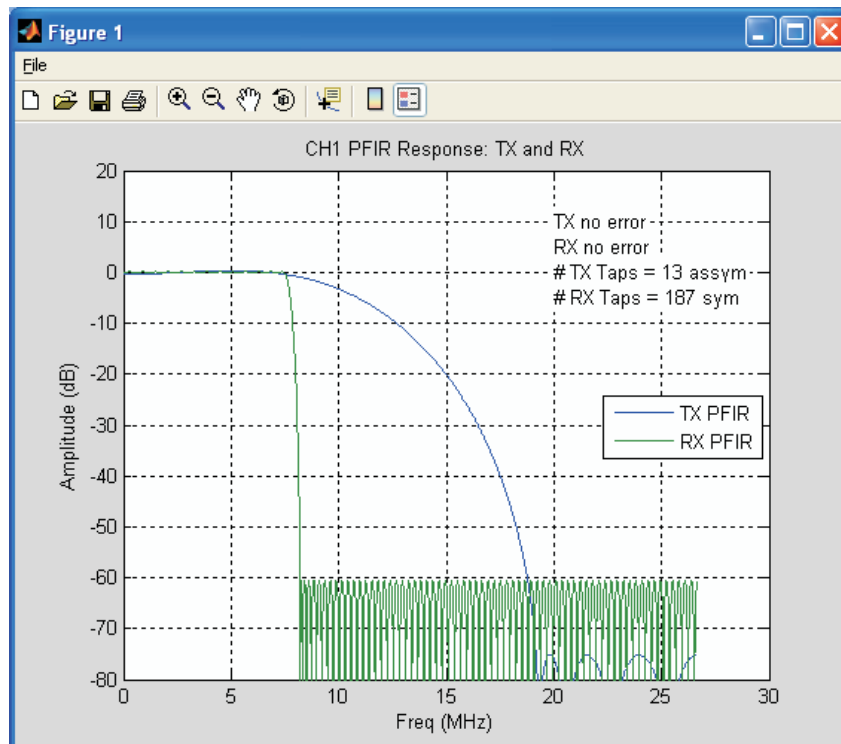

Figure 30. (Figure 2*N-1 Window) Frequency Response Before CIC Compensation and Quantization
- **Plots - RX + TX PFIRs**—plots RX and TX PFIR filter spectra before CIC compensation and scaling. Displays the number of taps used for each filter. (See Figure 30 for an example.)
After clicking the **Configure** button (if the filter is successfully designed) in the General Settings area the frequency response for each PFIR filter BEFORE CIC compensation and quantization is displayed in a window labeled Figure 2*N-1 (Figure 30), where N is the channel number. The odd-numbered figures also display the number of PFIR taps used, plus if the filter is symmetric or asymmetric.